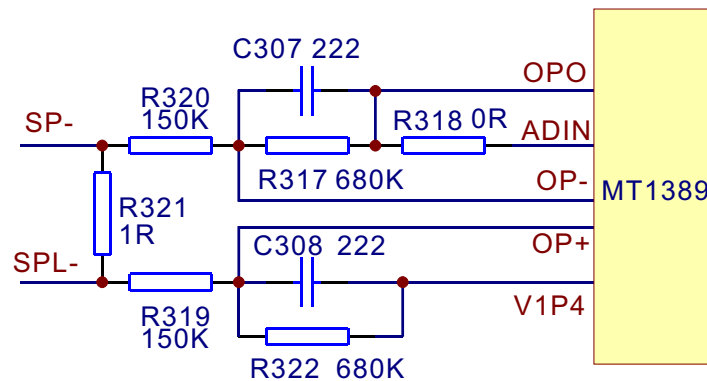

Figure 3.2.4.1 Main axis control circuit diagram
1. Main axis control circuit is shown as in the following figure 3.2.4.1: